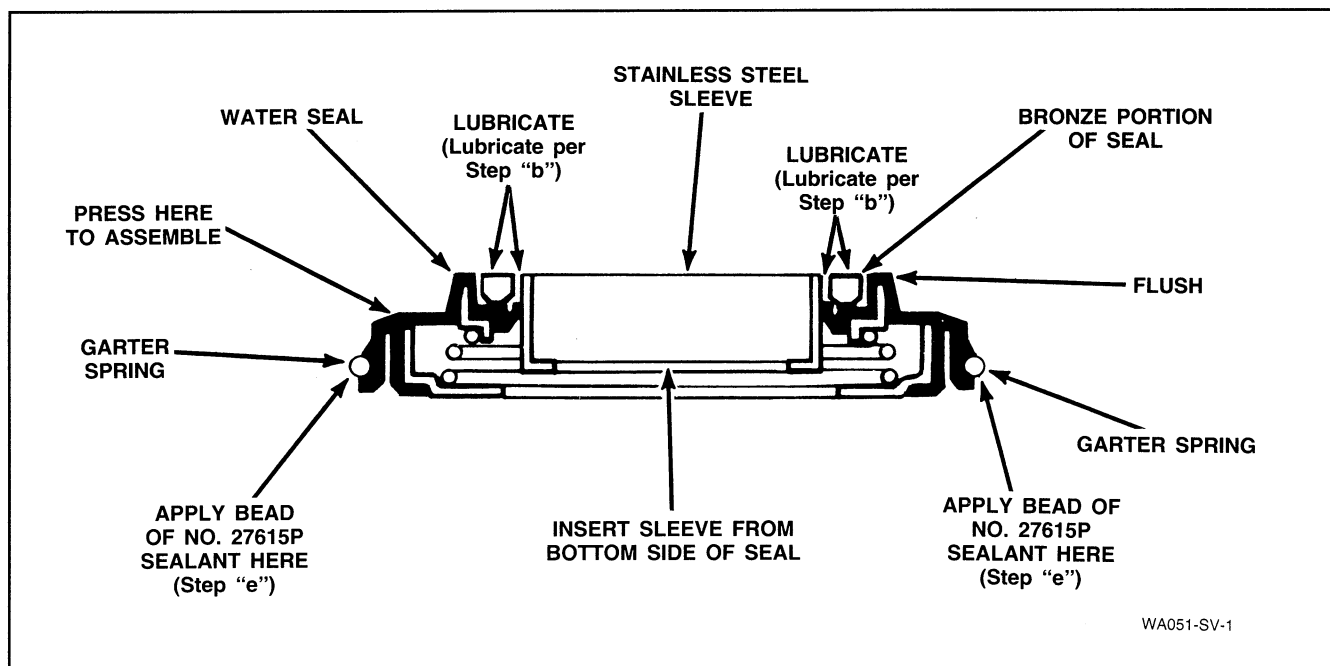

Figure 32
- b. Apply a light film of a non-staining petroleum jelly (such as Vaseline®) to the bronze portion of water seal and to the outer surface of the stainless steel sleeve, *Figure 32*.
- c. Insert the stainless steel sleeve into the water seal from the bottom side of the seal, *Figure 32*, until the sleeve is flush with the bronze portion of the seal.
- e. Carefully apply a small amount of No. 27615P Sealant (supplied with kit) around the outer edge of seal and tub. (The area located just below the garter spring, *Figure 32*.)